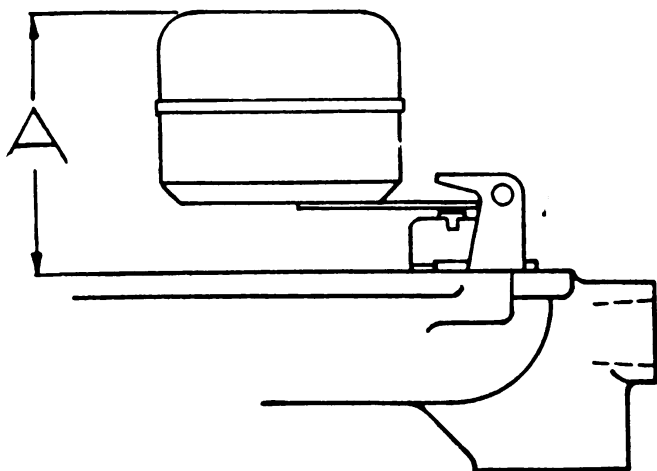

Fig. 21. Diagram Showing Measurement of Carburetor Float Level. Measurement A Should be $1\frac{1}{32}$ Inch Plus or Minus $\frac{1}{64}$ Inch
15. Replace idling jet (5) using a small screw driver (no gasket required).
20. Check position of float to obtain correct fuel level, as shown in Figure 21. The A dimension should be $1\frac{5}{32}$ " plus or minus $\frac{3}{64}$ ". (Move the gasket to one side while making the measurement.)
21. Place the venturi (1) in position in the throttle body.